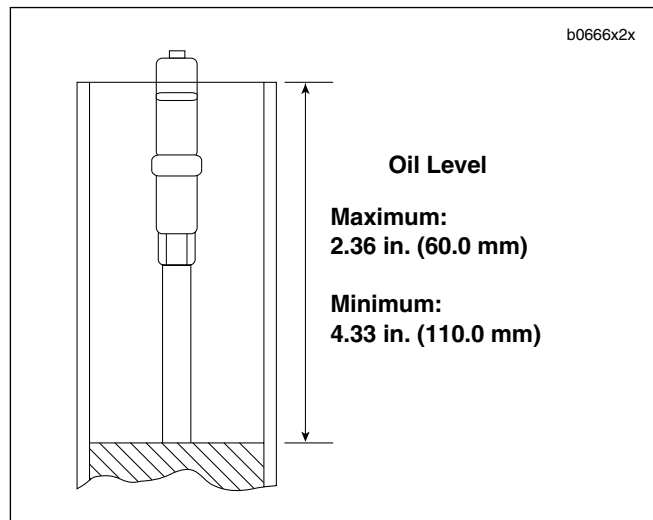

Figure 2-62. Oil Level Measurement
14. Place the piston rod and outer tube (8) in the full bottomed position.
15. See Figure 2-62. Pour the recommended fork oil into the slide pipe to a level between the maximum and minimum limits. Additional information on setting oil levels can be found under 1.16 FRONT FORK.